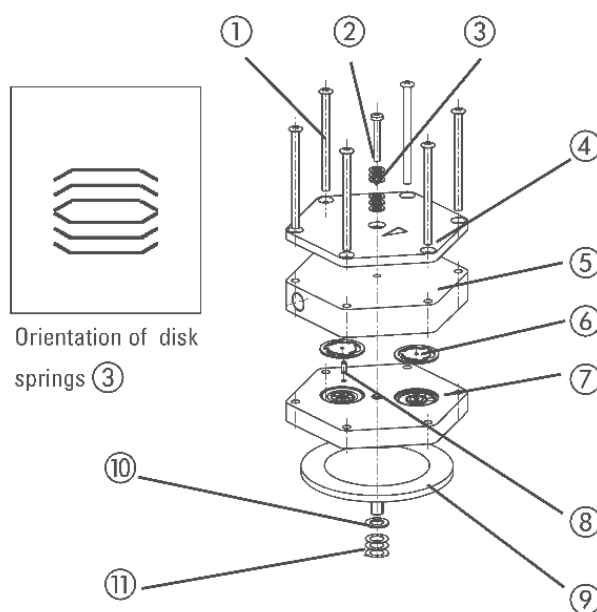

Fig. 4
The position numbers in the following text refer to fig.4.
- ① Press the lip on the edge of the structured diaphragm (9) into the groove in the housing.
- ② Place the intermediate plate (7) , with the valve plates/seals on the adapter (16) , in the position indicated by the guide pin (8) .
- ③ Place the head plate (5) on the intermediate plate (7) in the position indicated by the guide pin (8) .
- ④ Place the top plate (4) on the head plate in the right position.
- ⑤ Gently tighten screws (1) in diagonal order.
- ⑥ Screw in the single screw (2) in the center of the pump top plate (4) until it is flush with the top plate (they are flush with the top plate) ,
- ⑦ Then screw one final half turn to tighten.
For orientation of disk springs (3) see fig.4.